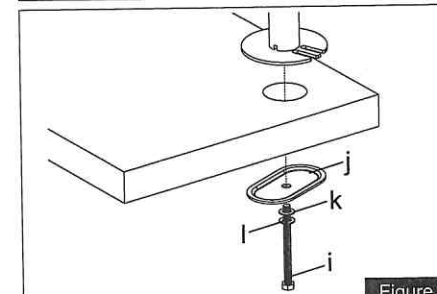

Figure 6
3. Position the Pole(a) on the mounting surface and secure using the Support Plate(j), M10 Washer(k), Spring Washer(l) and M10 Bolt(i). Fasten the M10 Bolt using provided Wrench(p), see Figure 6.